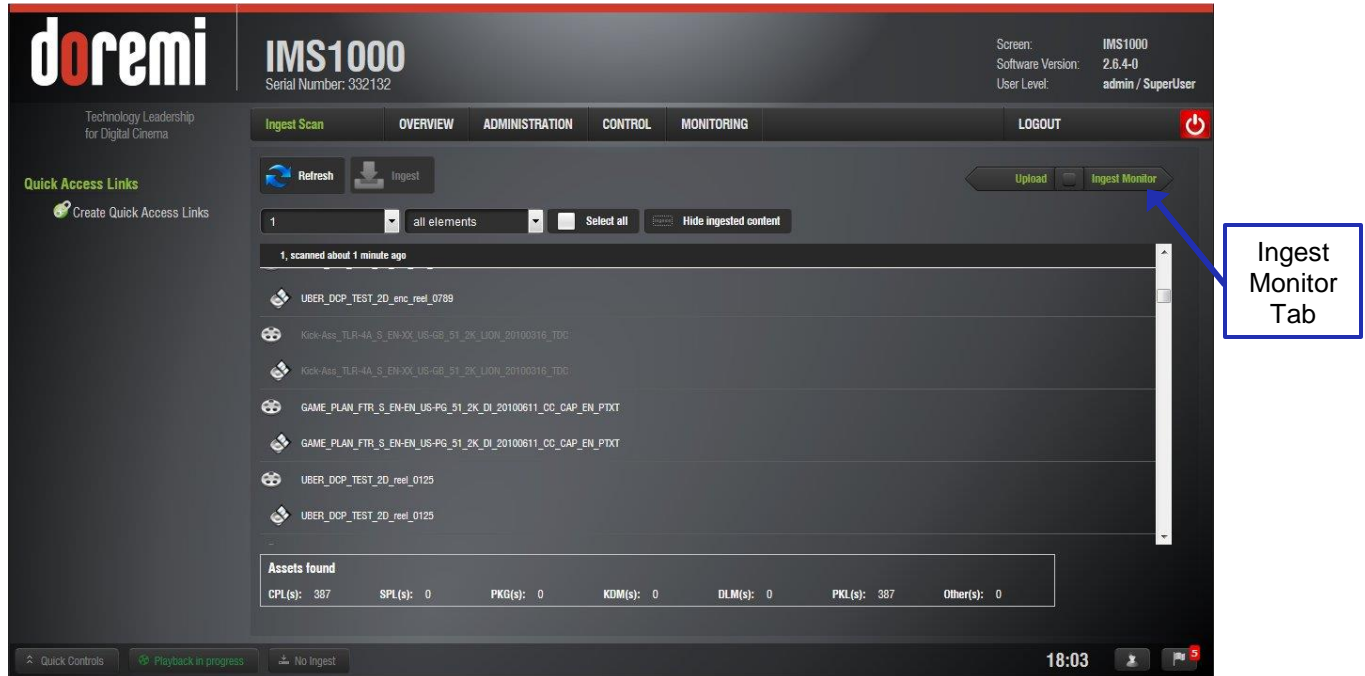

Figure 278: Remote Server Ingest
- Select the device from which to ingest from. Its content will be displayed inside the GUI (Figure 278).
To access the Ingest Monitor tab, click on the green arrow on the right hand side of the GUI in the Ingest Scan and Upload tabs (Figure 278).